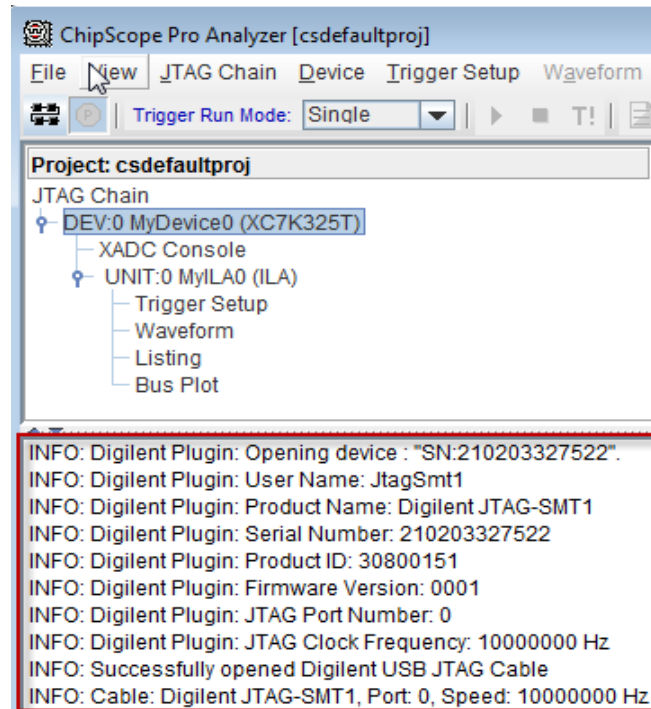

Figure 4: JTAG Chain Connection Data
4. Confirm the connection to the JTAG chain by verifying the information that appears in the bottom pane of the ChipScope Pro Analyzer window, as illustrated in Figure 4, page 13.